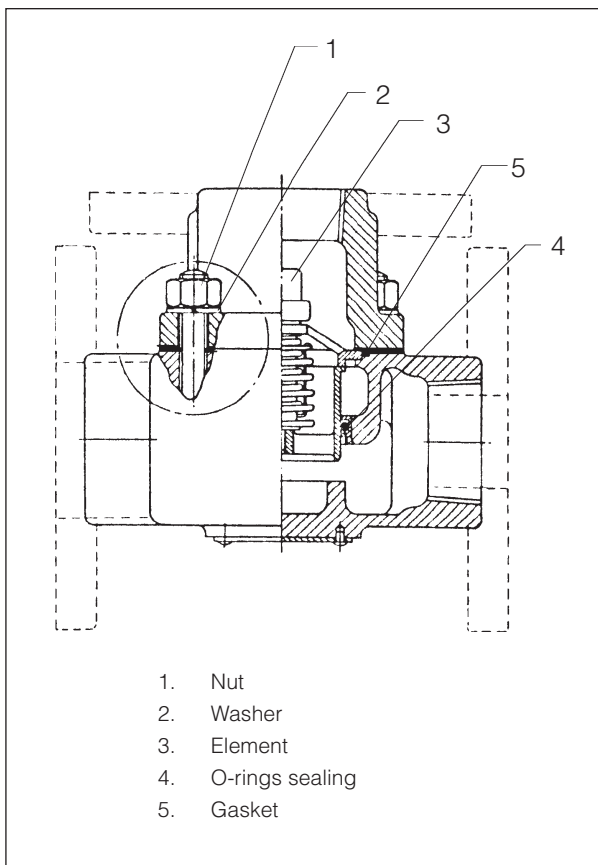

Fig 1 Thermostatic valve
- 1) Remove nuts (1) and washers (2), 4 or 6 pcs. See fig 1.
- 3) Remove the assembled elements (3) and the elements O-ring sealing.
- 6) The sealing rings (4) for the elements in the housing are replaced and lubricated with a thin layer of copaslip.
- 8) Upper and lower part of the housing are assembled with a new gasket (5), the nuts (1) are mounted and tightened "cross-wise".